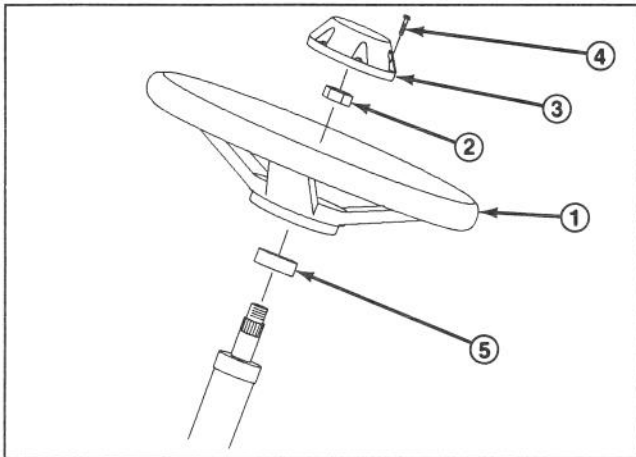

Figure 4
- Secure steering wheel to shaft with jam nut (Fig. 4) and tighten it to 10-15 ft-lb.